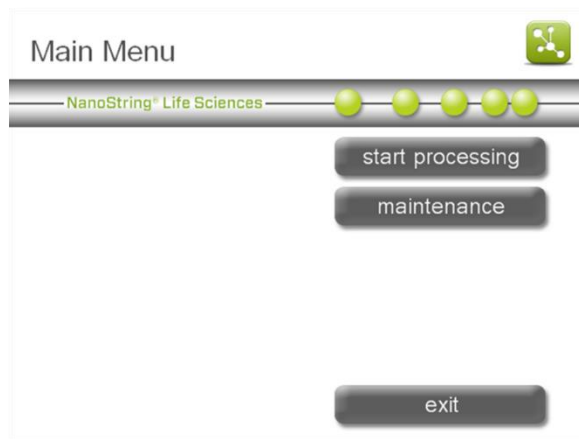

Figure 13: The Main Menu.
1. To set up a new run, touch **start processing** from the Main Menu (**Figure 13**).